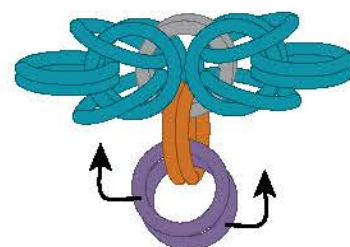

FIG. 3
3. Thread and close 2 (purple) jump rings through the 2 (orange) jump rings just added (**FIG. 3**).